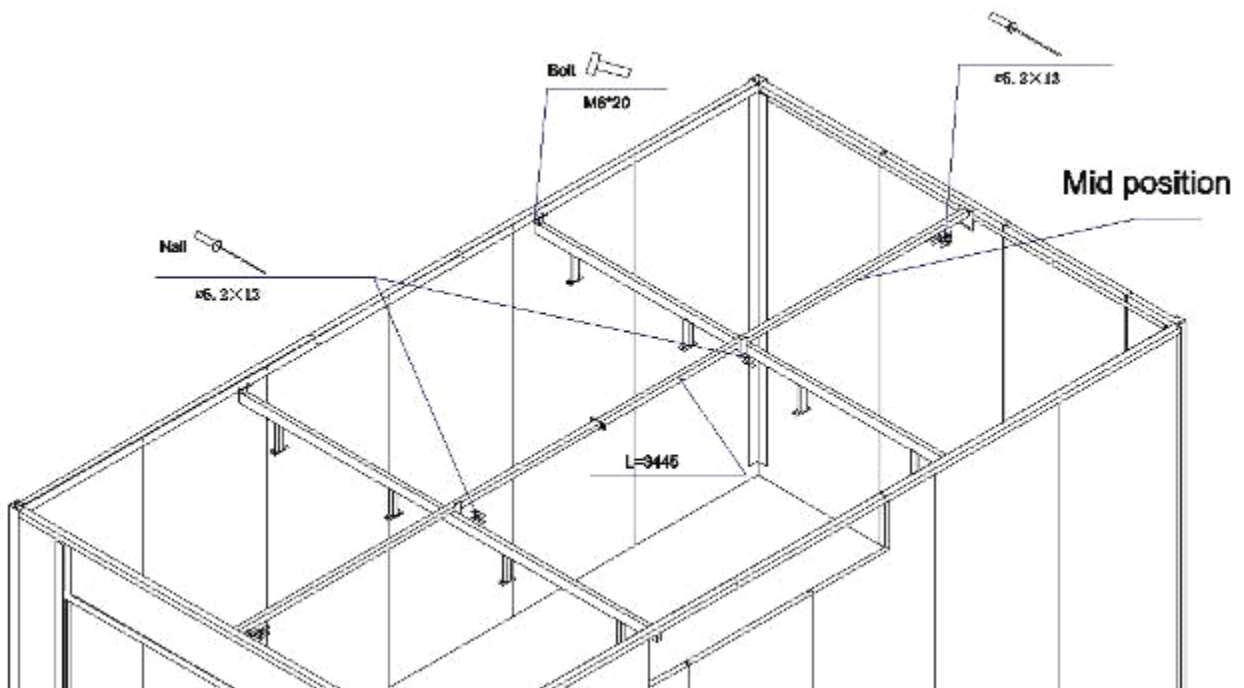

Fig. 3.13
1. Supporting beam installation (shown in Fig. 3.13)